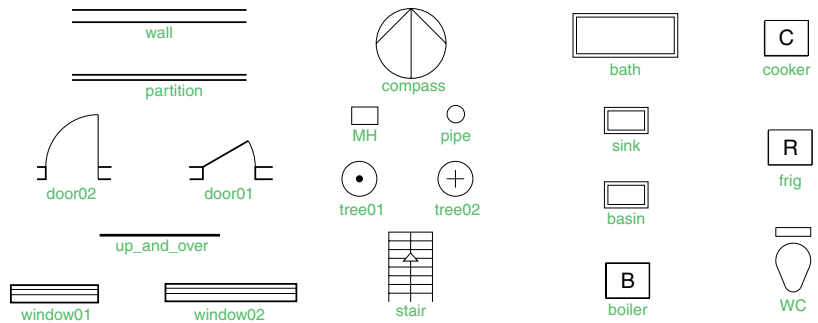

Fig. 9.22 Exercise 1
1. Construct the building symbols in Fig. 9.22 in a drawing saved as **symbols.dwg**. Then using the **DesignCenter** construct a building drawing of the first floor of the house you are living in, making use of the symbols. Do not bother too much about dimensions because this exercise is designed to practise using the idea of making blocks and using the **DesignCenter**.